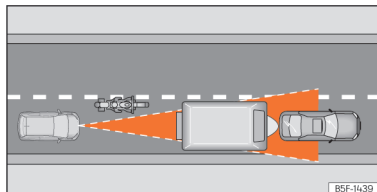

Fig. 109 Motorcyclist ahead out of range of the radar sensor.
- Vehicles that are not aligned while driving or that are outside the sensor's detection area, such as motorcycles »» **Fig. 109**.